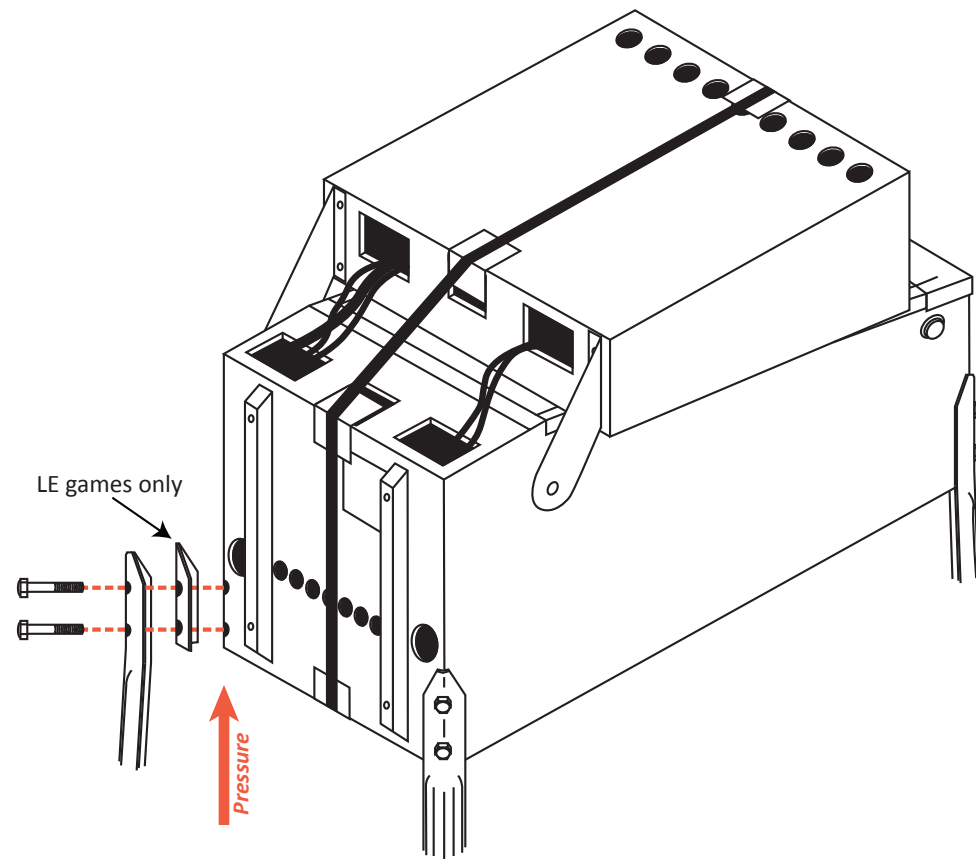

Figure 6. Installing the rear legs and cabinet protectors.
6) With the help of at least one other person, carefully tip the game onto its front legs. Lift the rear of the cabinet and have two people support it or place it on a sturdy support. As with the front legs, attach the two rear legs, using the four remaining acorn-head bolts and two cabinet protectors (LE games only). Tighten all bolts firmly, while maintaining upward pressure on the legs (see figure 6). Lower the game onto its legs.